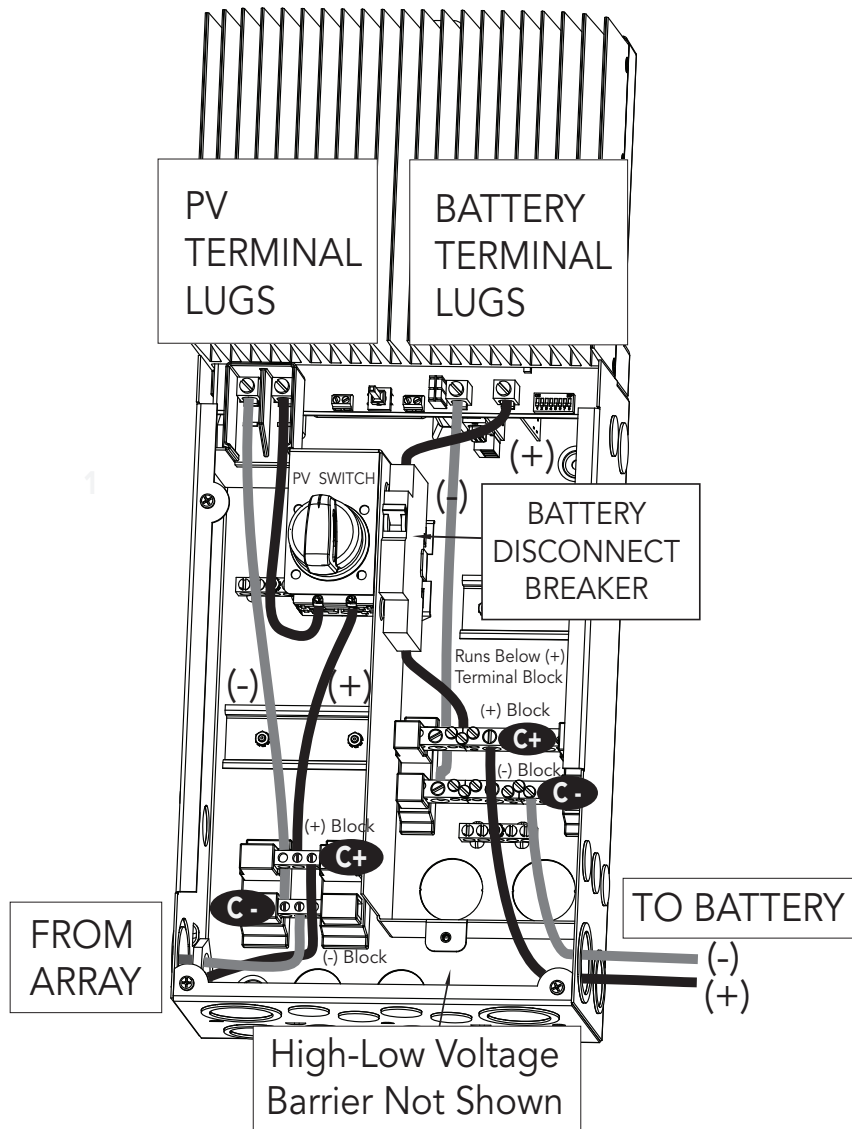

Figure 3-15. Power Terminal Locations
**Connect the four (4) power conductors shown in figure 3-15 as described in the following steps:**
2. Pull solar and battery wires into the Disconnect Box (DB). The Remote Temperature Sensor (RTS) and Battery Sense wires can be routed inside conduit along with the battery power conductors, if required. The RTS and Battery Sense wires CANNOT be routed in the same conduit with the high voltage solar conductors, unless rated for 600V. It is easier to pull the RTS and Sense wires before the power cables.